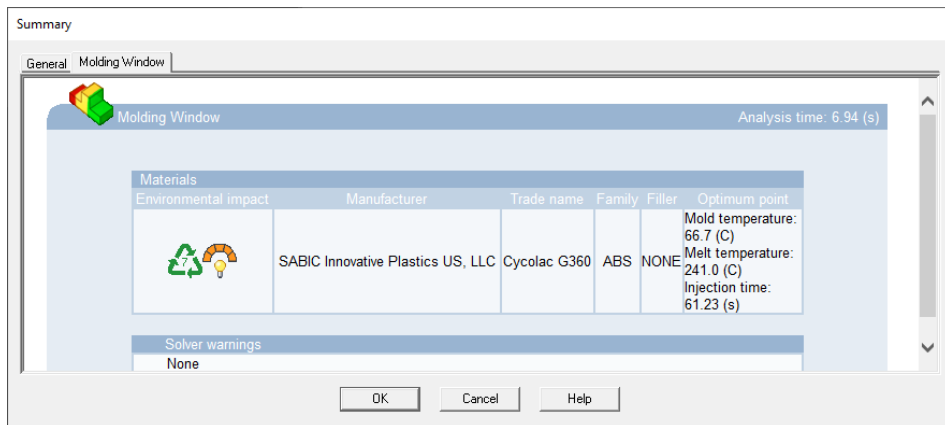

Figure 19-98 The Summary dialog box
3. After the analysis is complete, the summary is displayed in the **Summary** dialog box, as shown in Figure 19-98. Choose the **Cancel** button to exit. You can view the analysis report any time from the **Results** node in the **Mold Design** Browser Bar.